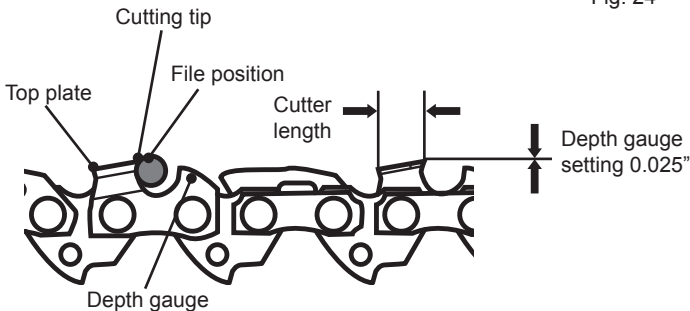

Fig. 25
9. Use a depth gauge measuring instrument to check the height of the depth gauge. Depth gauge measuring jigs are available from most reputable tool merchants (Fig. 25).